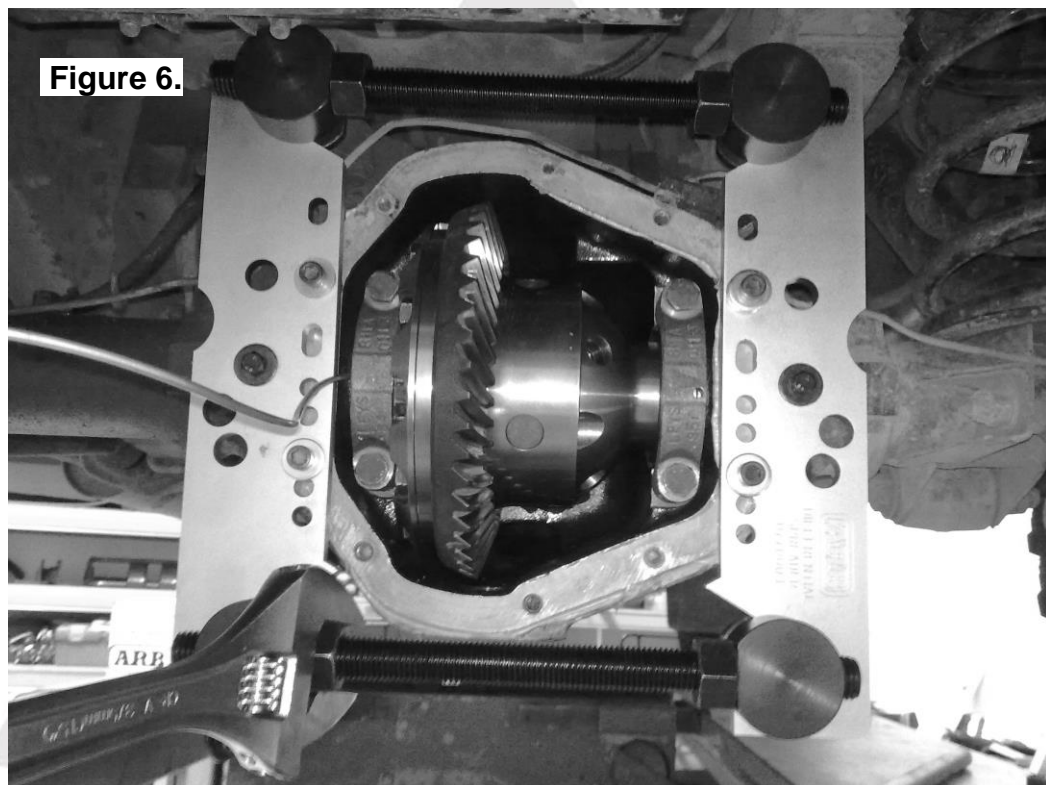

Figure 6.
- Carefully spread the housing (Fig.6.) enough to remove the differential center. (Refer to your vehicle's service manual).